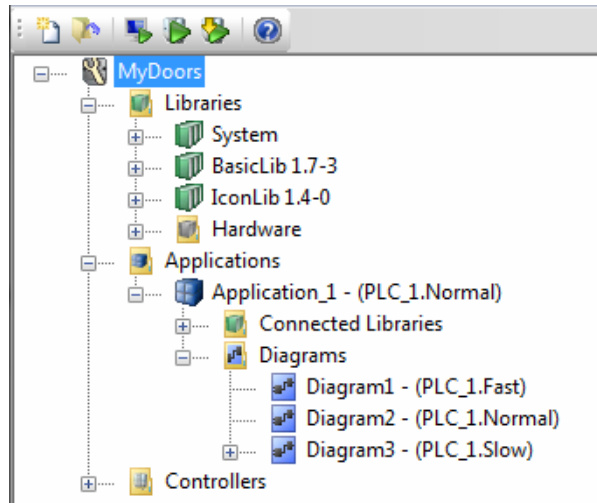

Figure 22. Diagrams Folder Expanded with Three Preset Diagrams Available
1. In the Project Explorer, expand the project tree to see **Diagram2**, (Figure 22). Double-click the icon to open the Diagram editor.
Make sure the diagram editor is open, (see Figure 22, to open editor). The default code block (Code) is the FD (Function Diagram) code block, which is a graphical editor (with visible grids) for adding graphical objects.